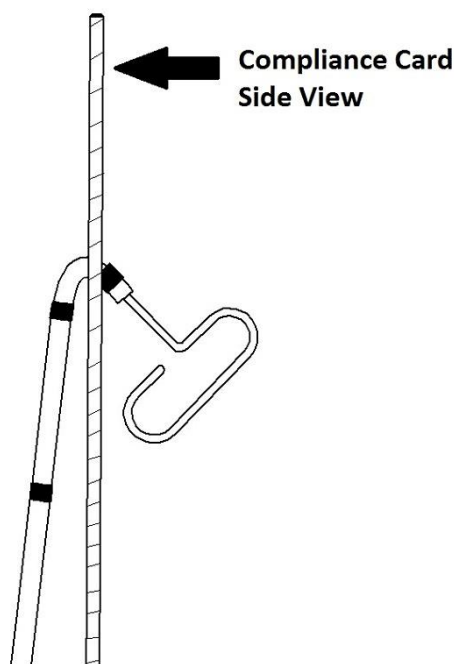

Figure 1 Shaped Configuration
4. Place the distal tip marker band at the bottom and inside of the steam groove. (see Figure 1)